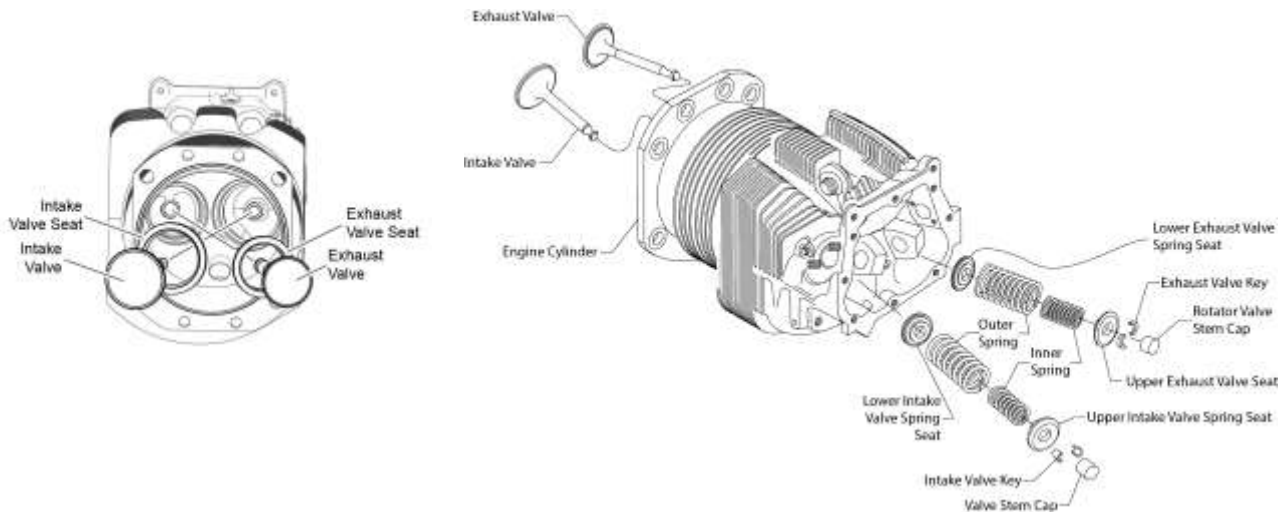

Figure 25
- (1) Remove the cylinder from the engine per the “Cylinder Removal” procedure in this chapter.
- (2) Remove the intake valve stem cap (Figure 25).
- (1) Apply lubricant identified in the latest revision of Service Instruction No. SI-1059 to the intake valve stem.
- (2) Install a serviceable intake valve in the valve guide (Figure 25), through the cylinder barrel.
- (3) Install the valve spring seats and valve springs,
- (4) Use a Valve Spring Compressor Tool (ST-25) to compress the intake valve spring and install the valve stem key.
- (5) Install the intake valve stem cap on the intake valve.
- (6) Install the cylinder on the engine per the “Cylinder Installation” procedure in this chapter.
- ▮ (2) Remove the rotator valve stem cap (Figure 25).
- (3) Use a Valve Spring Compressor Tool (ST-25) to compress the exhaust valve spring and remove the valve stem key.
- (4) Remove the valve spring seats and valve springs from the exhaust valve.
- (1) Apply lubricant identified in the latest revision of Service Instruction No. SI-1059 to the exhaust valve stem.
- ▮ (2) Install a serviceable exhaust valve in the valve guide (Figure 25), through the cylinder barrel.
- (4) Use a Valve Spring Compressor Tool (ST-25) to compress the exhaust valve spring and install the valve stem key.
- (5) Install the rotator valve stem cap on the exhaust valve.